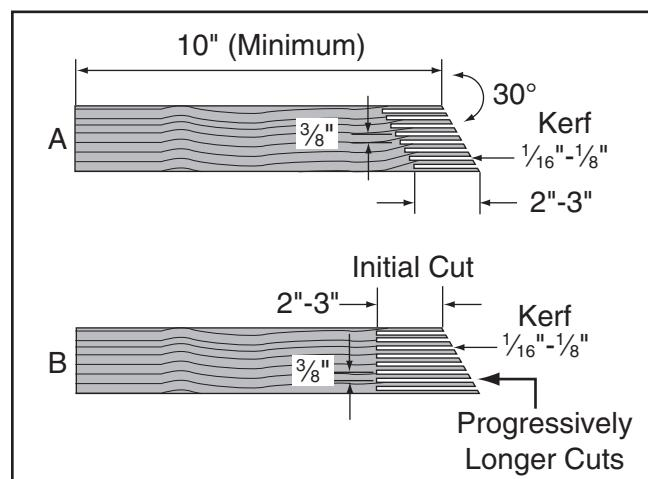

Figure 79. Patterns for featherboards (top view shown).
3. Make a series of end cuts with the grain $\frac{3}{8}$ "- $\frac{1}{4}$ " apart and 2"-3" long, as shown in **Figure 79 (A)**. Alternatively, start cuts at 2"-3" deep, then make them progressively deeper, as shown in **Figure 79 (B)**.